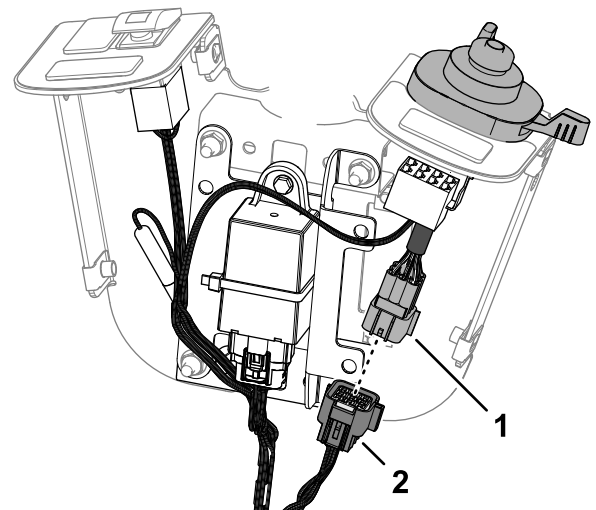

Figure 35
- Plug the 9-pin connector of the multi-function switch harness into the 9-socket connector of the console harness (Figure 35).